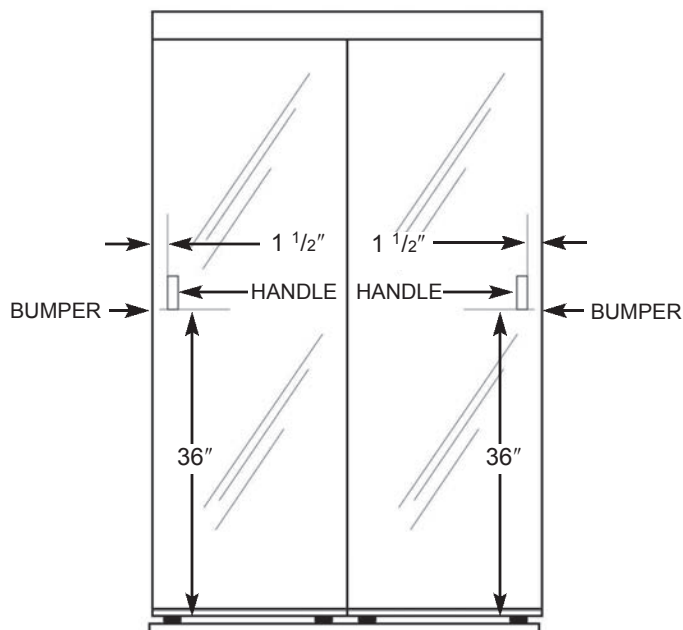

Figure 5
Peel paper off the back of the Clear Plastic Bumpers (#8) and place on the edge of the Panel (#1) frame 36" up from the bottom. The Clear Plastic Bumpers (#8) will cushion and protect the door and wall when you close the wardrobe doors (See Figure 5).
- A. Clean mirror in the area where the Mirror Handles (#7) will be applied. Peel paper off the back of the Mirror Handles (#7). Position each Mirror Handle (#7) 36" from the bottom of the Panel (#1) and 1-1/2" from Side Mold (#11) on each Panel (#1) (See Figure 5).